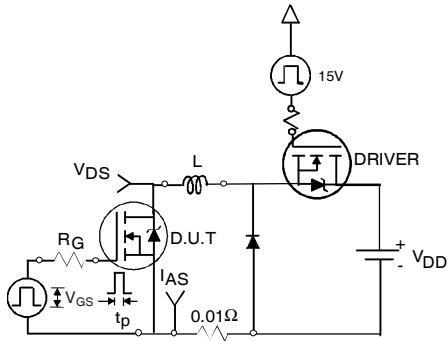

Fig 12a. Unclamped Inductive Test Circuit
- ③ Pulse width ≤ 1.0ms; duty cycle ≤ 2%.
- ④ C_{oss eff.} is a fixed capacitance that gives the same charging time as C_{oss} while V_{DS} is rising from 0 to 80% V_{DSS}.
- ⑤ Limited by T_{Jmax}, see Fig.12a, 12b, 15, 16 for typical repetitive avalanche performance.
- ⑥ This value determined from sample failure population, starting T_J = 25°C, L = 0.08mH
3. Equation below based on circuit and waveforms shown in Figures 12a, 12b.